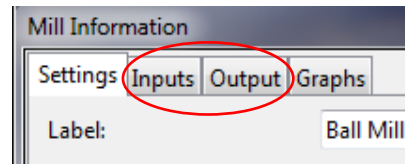

Figure 11: Input-Output Tabs
- 1) Input and output response of the variables associated with every equipment can be accessed by double clicking the equipment icon of the equipment. For example in Figure 8 for a ball mill the dialog box contains input and output tabs next to settings tab (Figure 11).